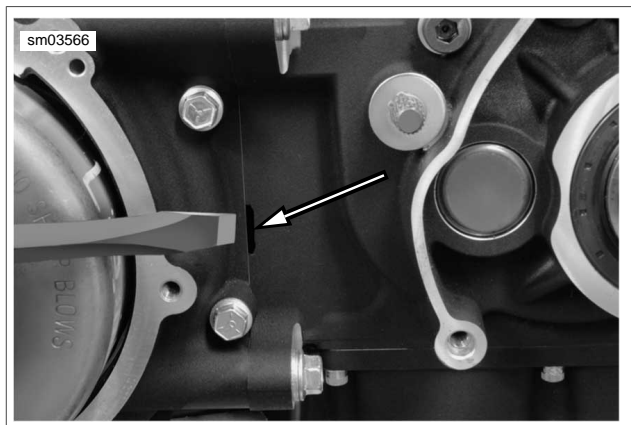

Figure 7-10. Transmission Case Pry Point
- See Figure 7-10. Do not attempt to remove shafts by tapping them out from opposite side. If you try to remove the shafts by tapping them with a hammer, you will damage the side door bearings. If the side door sticks or binds on the ring dowels, pry open using indents at each side of side door.